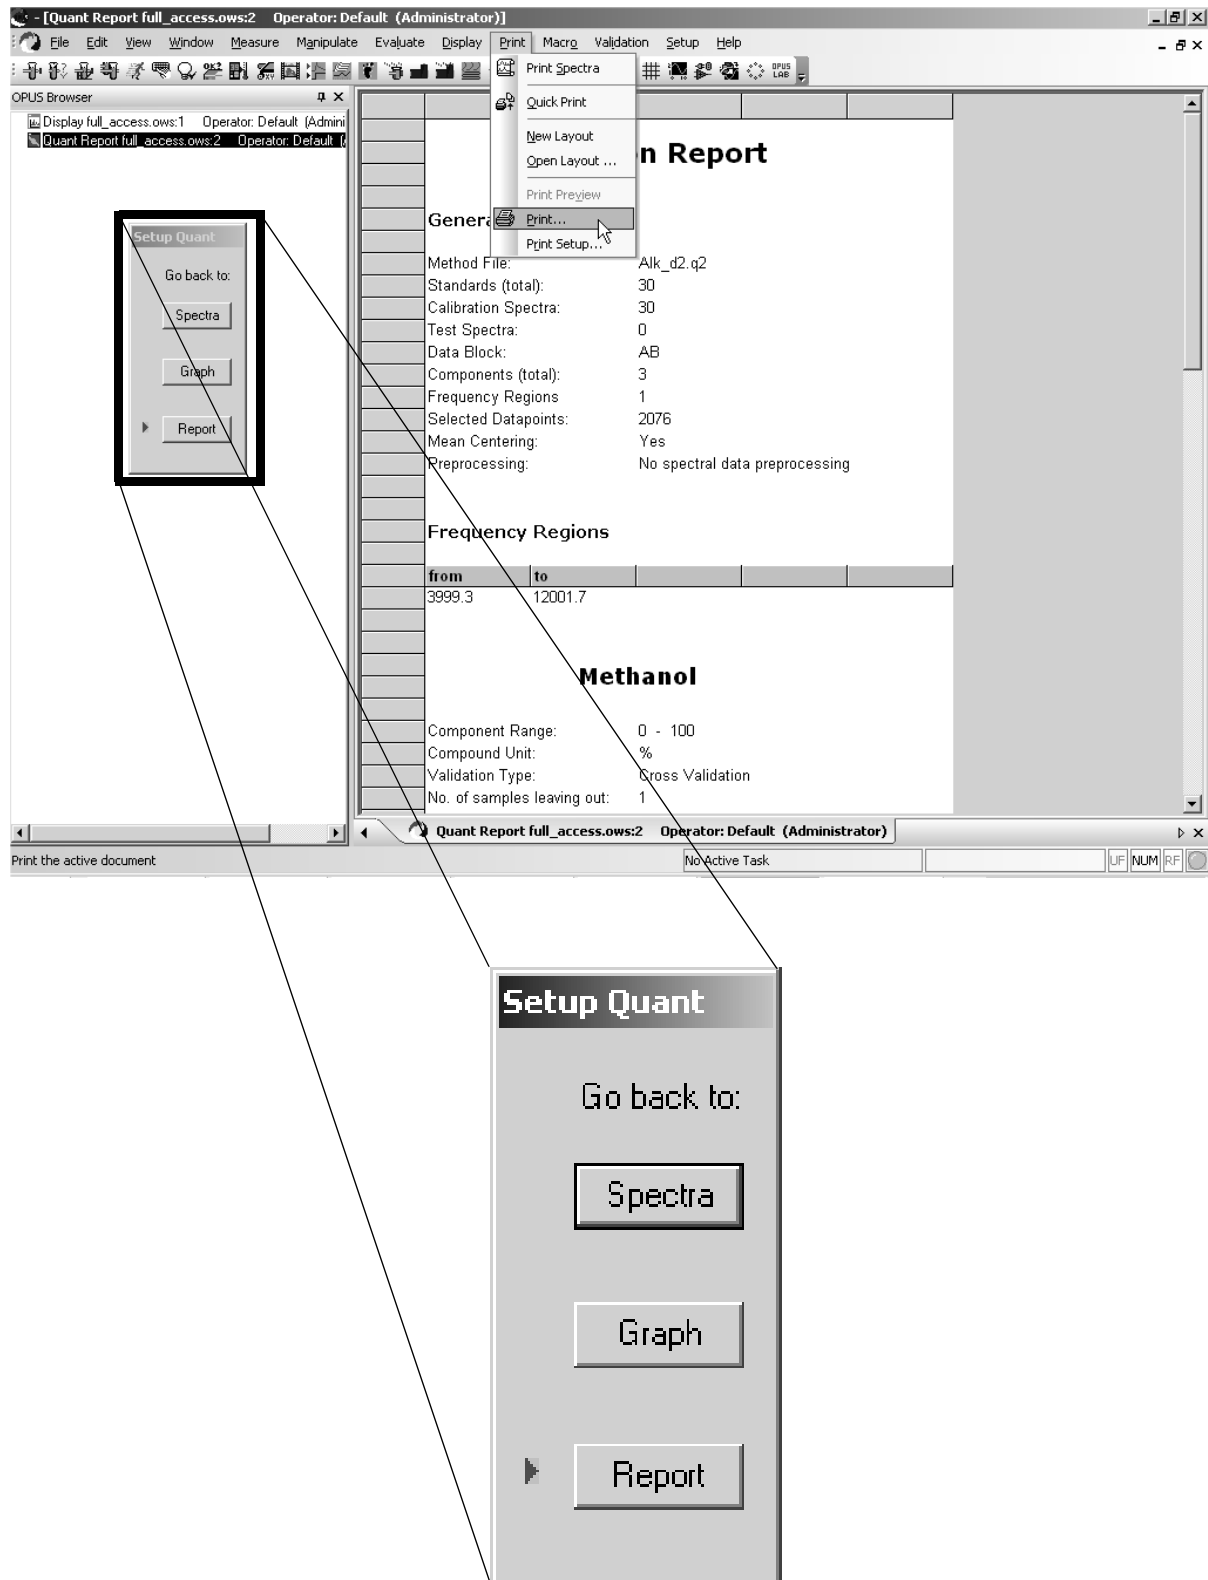

Figure 34: Setup Quant 2 Method – Printing the Report
- 4) To print this report you can click either on the *Print* or on the *Window* button. Clicking on the *Window* button embeds the QUANT setup assistant in an OPUS window (figure 34). (The same *Window* button for the QUANT Setup Assistant is also on the *Graph* and *Spectra* page.) Then, choose the *Print...* command from the OPUS *Print* menu.
Notice that upon embedding the QUANT Setup Assistant into OPUS, a control panel consisting of three buttons becomes active (figure 34). Clicking on one of these buttons brings you back to the respective page of the *Setup Quant 2 Method* dialog window. Click on the *Report* button to return to the *Report* page.